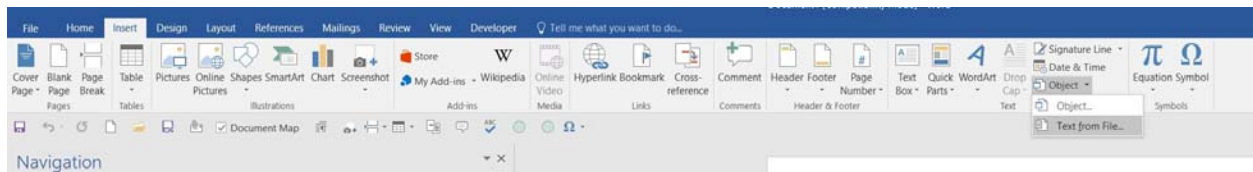

Figure 1-1, Insert Object, Text from File
- Reference the process in Figure 1-1, Insert Object, Text from File below.